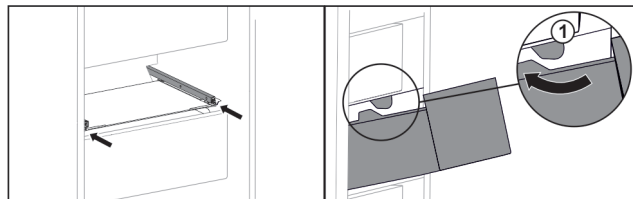

*Fig. 112*
- ▶ Lift drawer from below at the back. *Fig. 112 (1)*
- ▶ Remove drawer to the front. *Fig. 112 (2)*